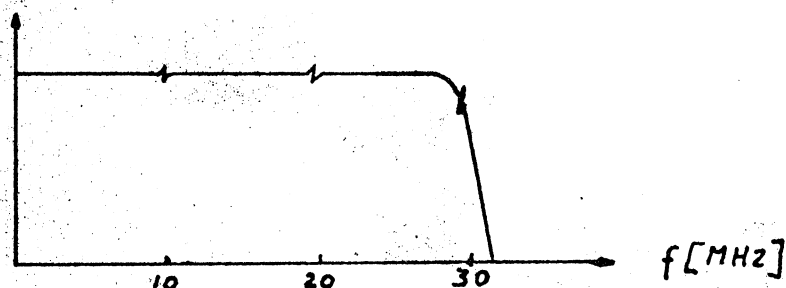

Fig. 1: Filter response curve LP-30, partially adjusted.
5. Adjust the core of L12 to the filter cut-off frequency, f_c (-3 dB) is 30 MHz (see Fig. 1.) This image should appear before the core is midway in the former. Lock the cores of L11, L12 and L13.